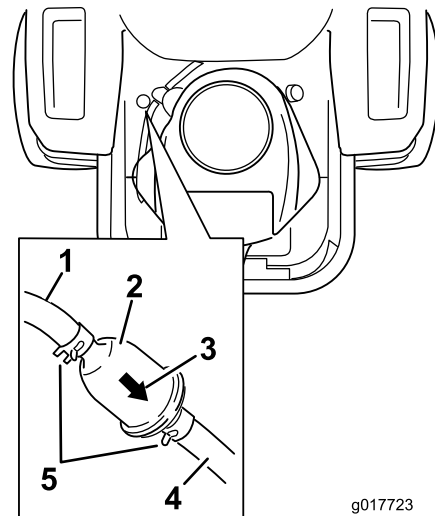

Figure 38
4. Raise the seat and locate the fuel filters as shown in Figure 38.
7. Install a new filter with the flow direction arrow coming from the fuel tank and pointing to the engine. Move the hose clamps close to the filter (Figure 38) to secure it in place.